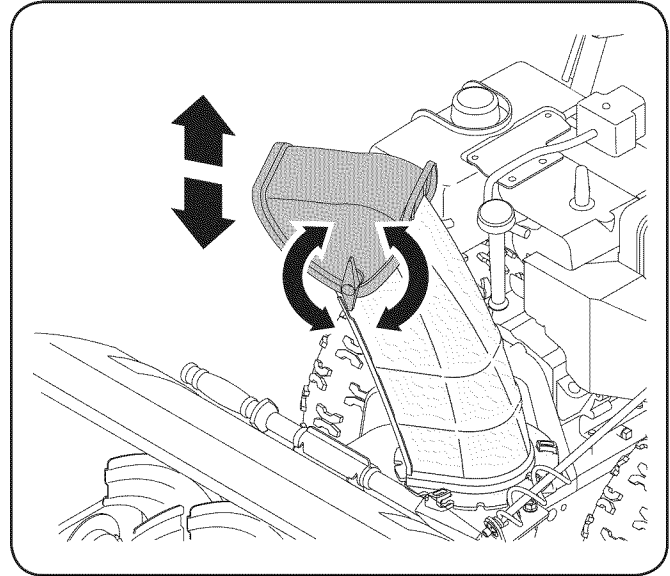

Figure 3-8
2. Pivot the chute upward or downward before retightening the wing knob. See Fig. 3-8.